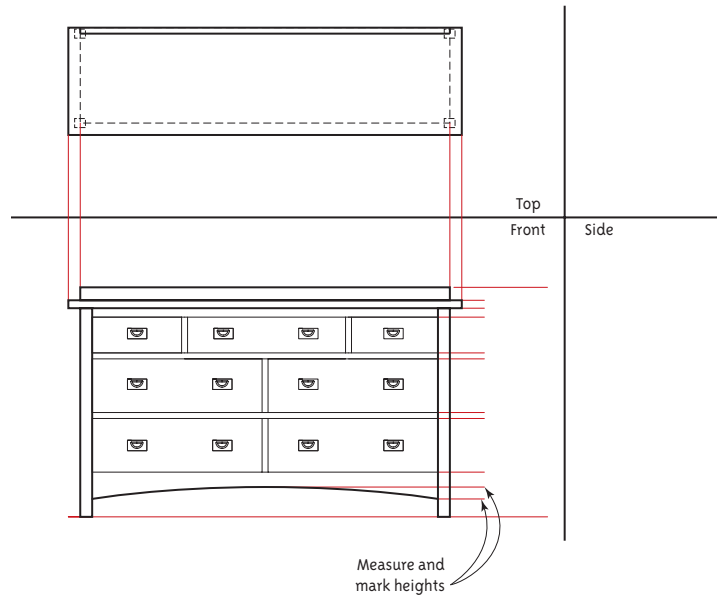

Figure 4-12
**Front** Project the chest, plate rail, and overhang's width down from the top view. Measure and mark the chest's height, then all measure and mark the heights of all the details (here, the apron rail, handles, and plate rail). Look at the overhang. You can see its thickness and how much it projects at the sides, but because of the lack of depth you can't see how much it projects at the front (or if it overhangs at all). It's only in the side view that the front overhang is visible. There are no hidden features in the front view, so there are no hidden lines (see Figure 4-12).